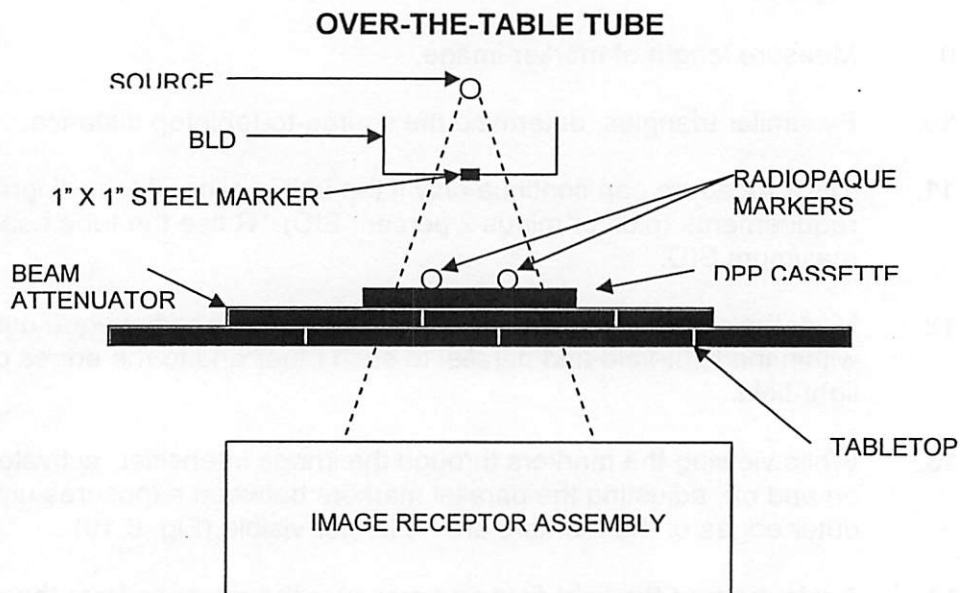

Figure 6.9
4. Place a lead foil phantom or copper attenuator on the tabletop and center a loaded cassette in the light-field (Fig. 6.9)